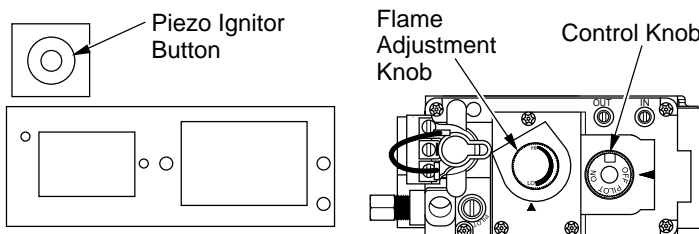

Figure 39 - Control Knob and Ignitor Button Location (Shown as Supplied - No Control Options)
3. Press in and turn control knob clockwise  to the OFF position (see Figure 39).
4. Wait five (5) minutes to clear out any gas. Then smell for gas, including near the floor. If you smell gas, STOP! Follow "B" in the safety information, column 1. If you don't smell gas, go to the next step.
5. Press in and turn control knob counterclockwise  to the PILOT position. Press in control knob for five (5) seconds (see Figure 39).